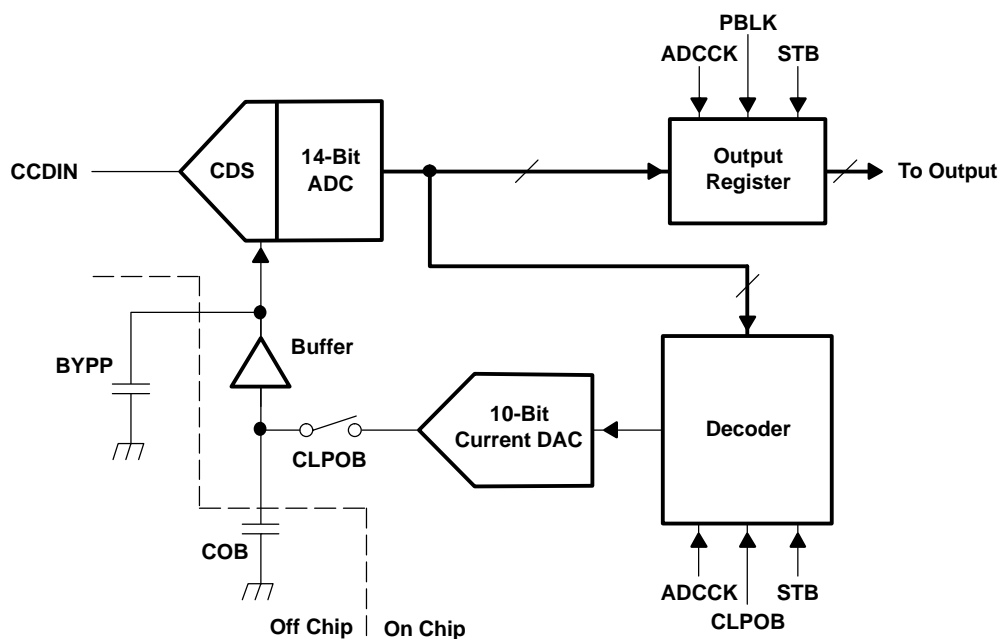

Figure 3. Block Diagram of Digital PGA and Black Level Clamp Loop
To extract the video information correctly, the CCD signal must be referenced to a well-established black level. The VSP2254 has an auto-zero loop (calibration loop) to establish the black level using the CCD's optical black (OB) pixels. Figure 3 shows the block diagram of the black level clamp loop. The input signal level from the OB pixels is identified as the real black level and the loop is closed during this period (actually during the period while CLPOB = ACTIVE). While the auto-zero loop is closed, the difference between the ADC output code is evaluated and applied to the decoder, which then controls the 10-bit current DAC. The current DAC can charge or discharge the external capacitor at COB, dependent on the sign of the code difference. The loop adjusts the voltage at COB, which sets the offset of the CDS so as to make the code difference zero. Thus, the ADC output code converges to black level during CLPOB = ACTIVE and the black level derived from the OB pixels after the loop has converged. CLPOB performs OB clamp of both channels simultaneously.